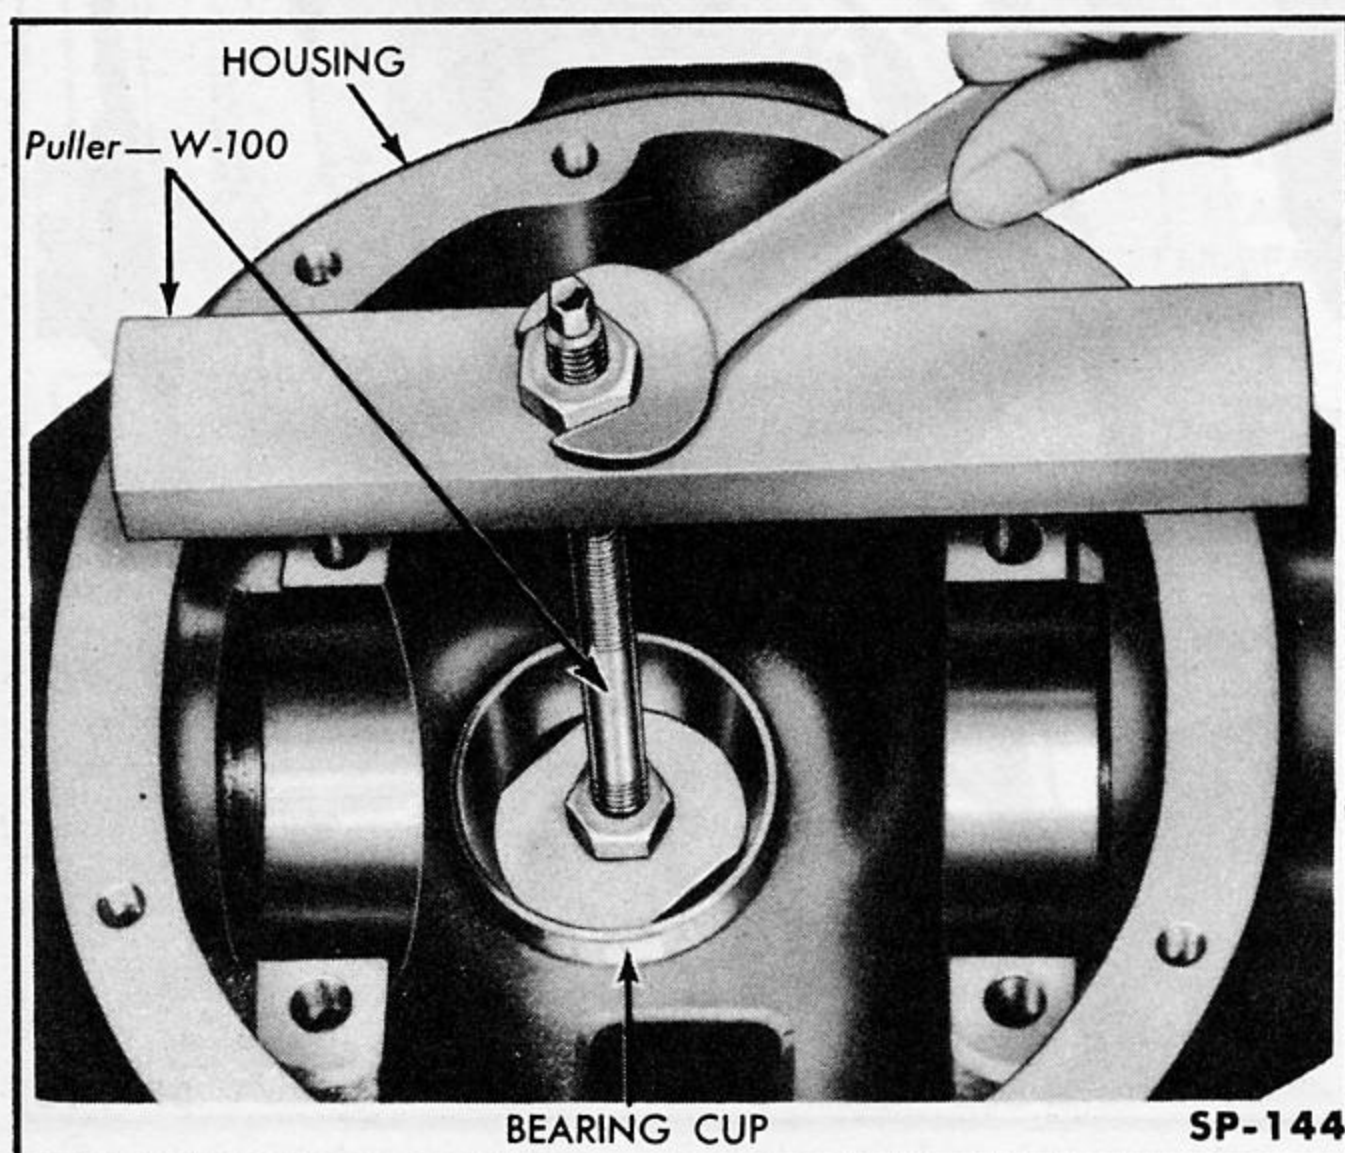

Fig. 178—Removing Pinion Bearing Cup
8. Remove pinion oil seal, gasket, oil slinger, front bearing cone, front and rear bearing cups and shims from axle housing. If necessary, use Puller W-100 (part of Gauge Set W-99) to remove bearing cups as shown in Fig. 178. Carefully note size, number and location of shims.